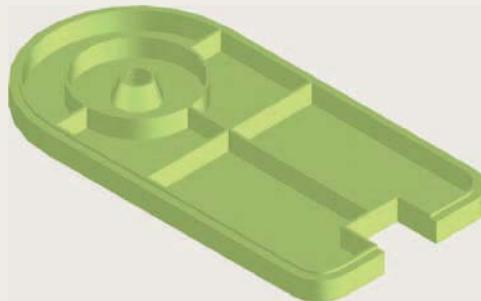
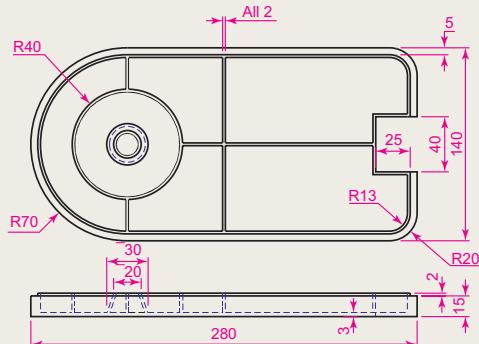

Fig. 15.50 Exercise 2
Fig. 15.51 Exercise 2 – two-view projection
2. Figure 15.50 is a rendering of a drip tray. Working to the sizes given in Fig. 15.51, construct a 3D model drawing of the tray. Add lighting and a suitable material, place the model in an isometric view and render.